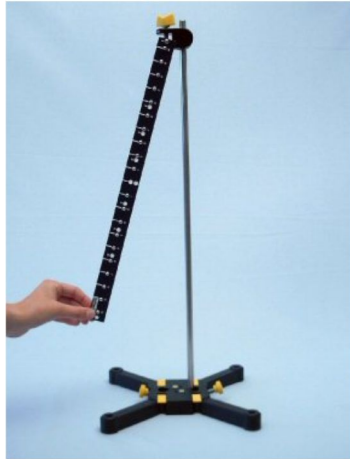

Fig. 10
- Deflect the lever and let it fall (Fig. 10).